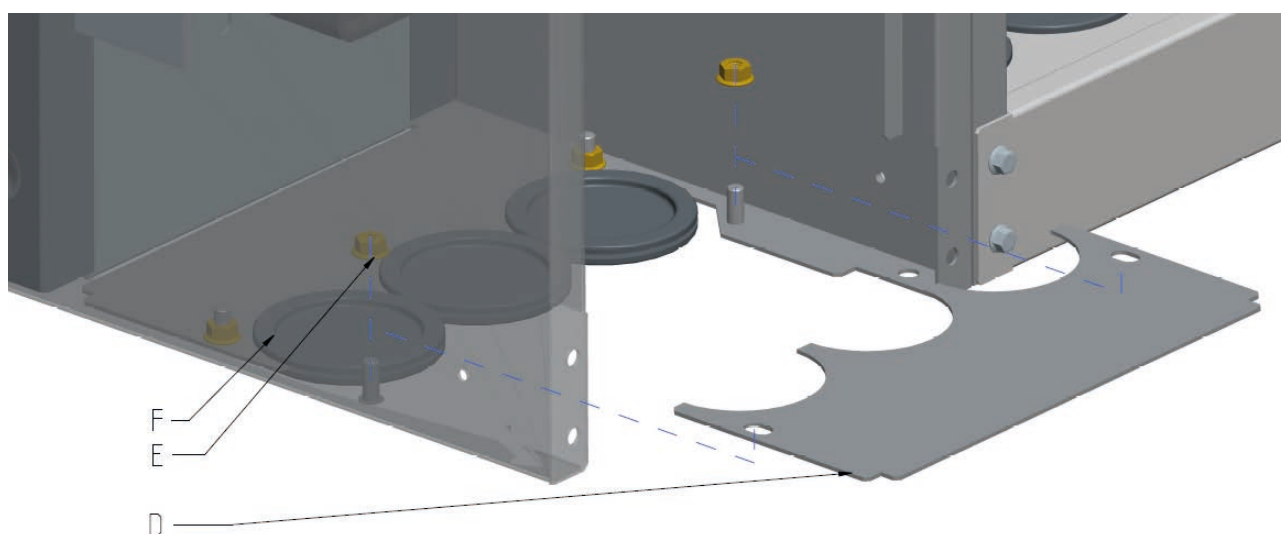

Figure 19: Dismantling of the front bottom plate
After removing the front face of the cable compartment, the front bottom plate (see figure 19 D) of the cable compartment can be removed after disassembling the hexagonal head screws (E). At this stage the 3 cable rubber glands could be removed from the cable compartment.